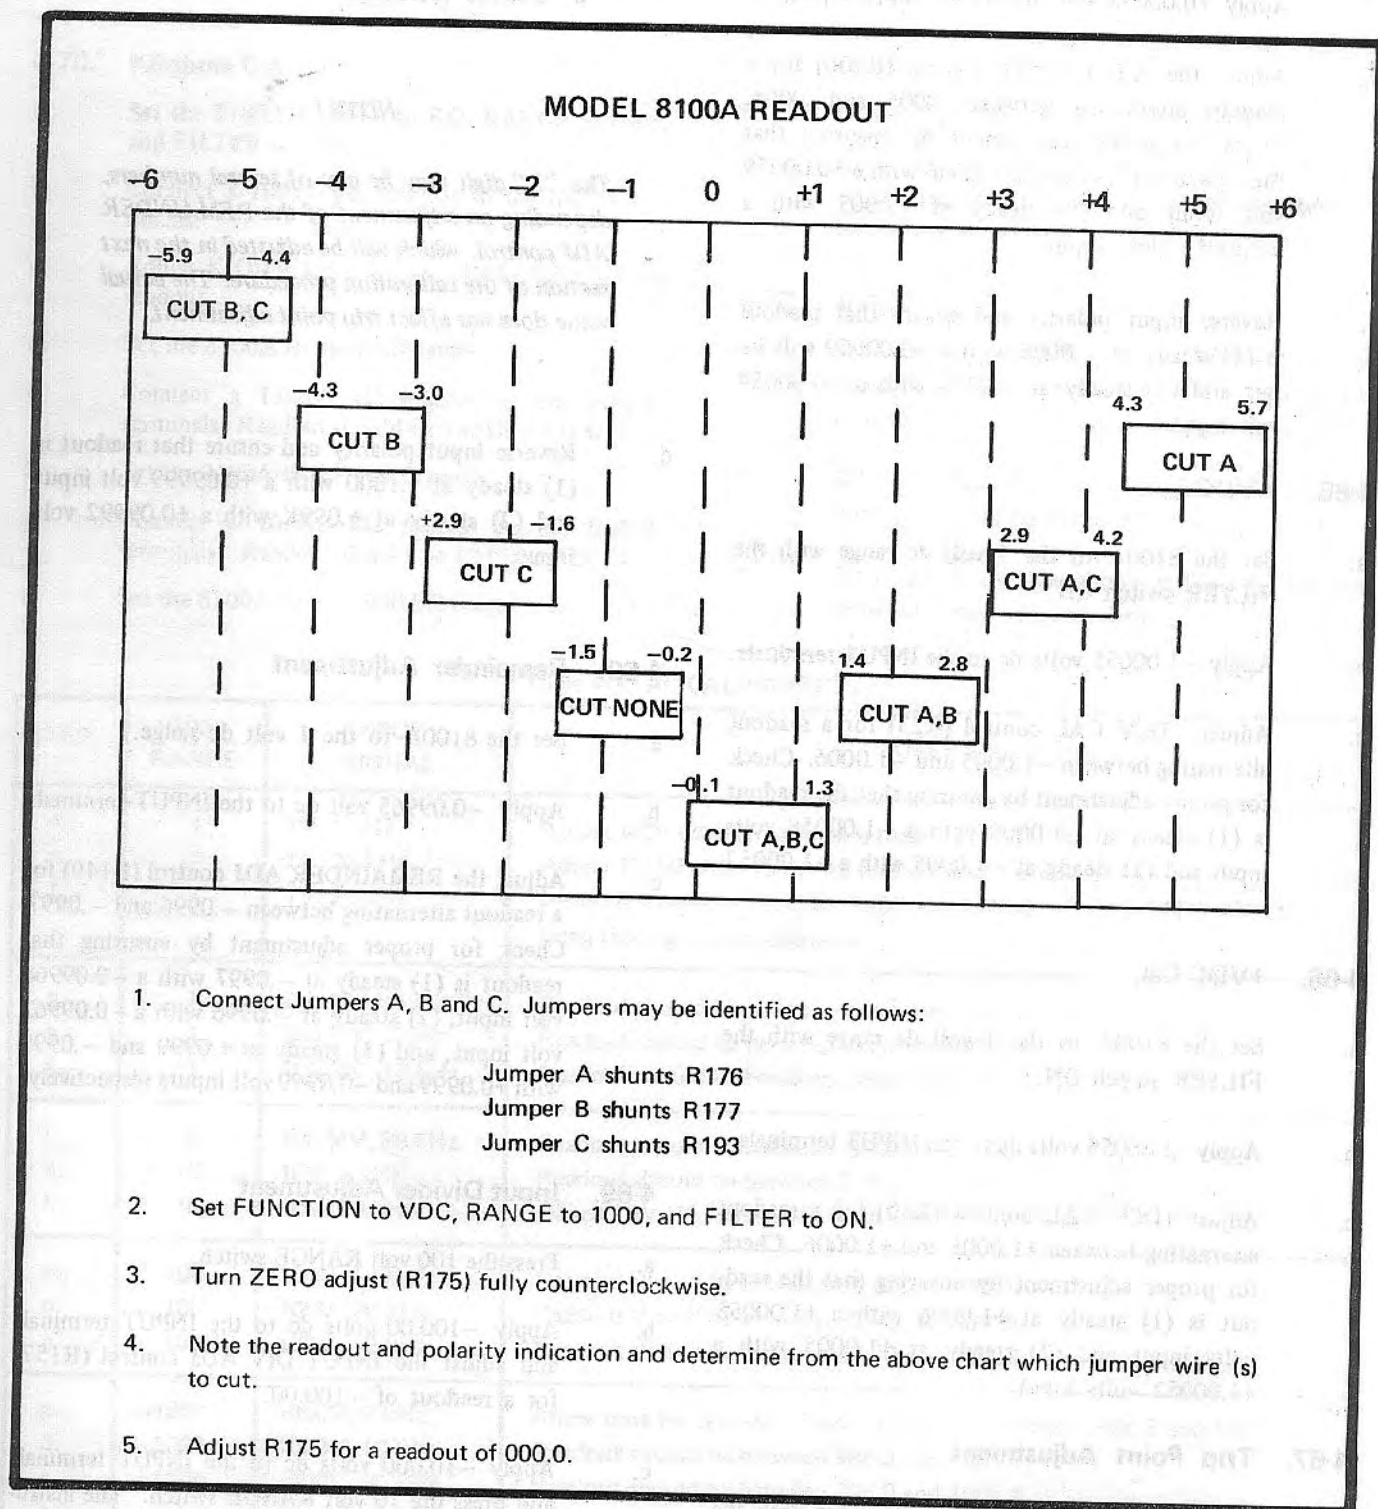

Figure 4-14. ZERO ADJUSTMENT PROCEDURE
- d. Adjust the ZERO control (R175) for zero volt dc (± 10 μ V). If unable to obtain zero by adjusting R175, refer to the detailed procedure given in Figure 4-14.